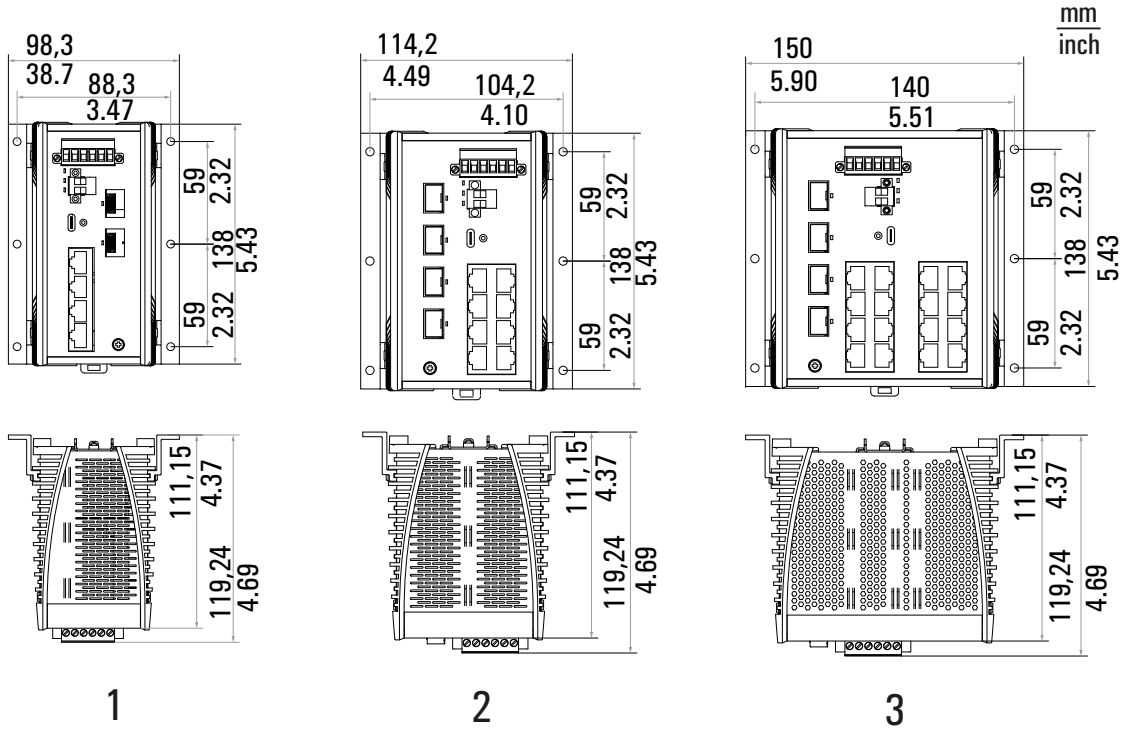
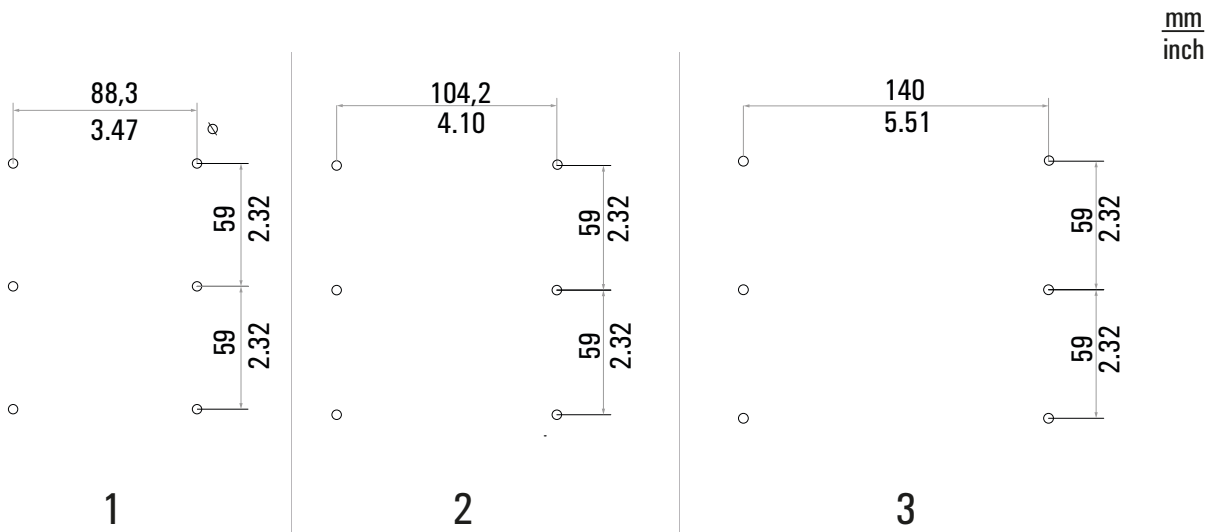

Figure 2: Dimensions of the BRS metal casing widths (1 narrow, 2 medium, 3 wide) including the wall mounting bracket
Figure 3: Drilling plan for the various BRS metal casing widths (1 narrow, 2 medium, 3 wide)
- Mark the drill holes on the wall. For the dimensions see figure 2 and figure 3.